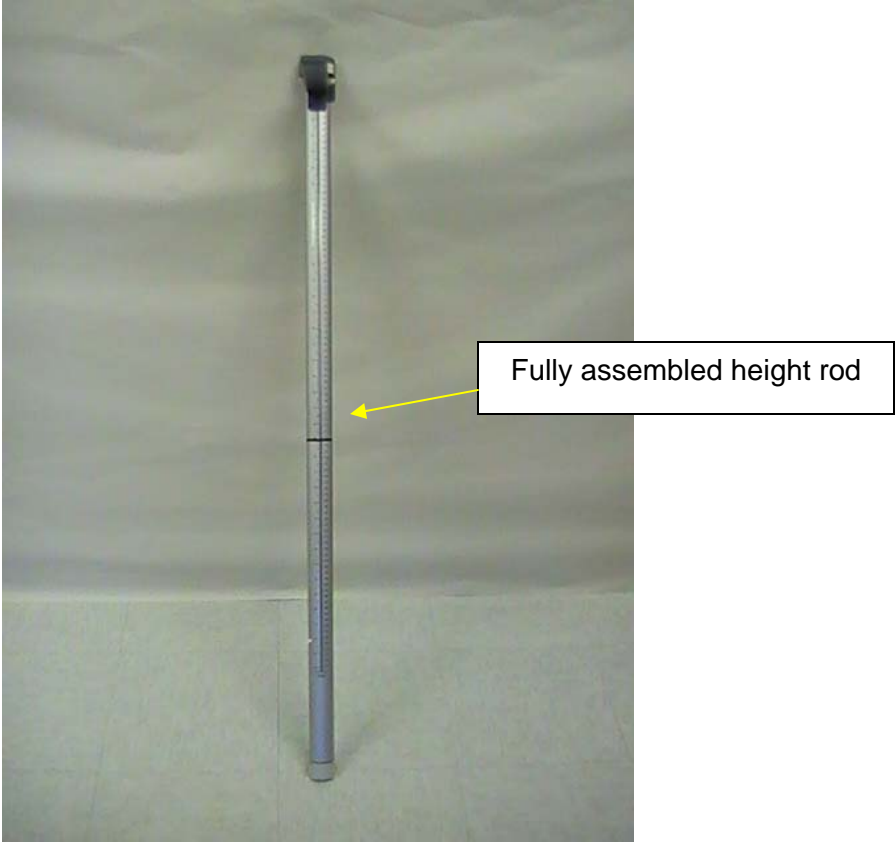

**Figure 7**
1. Connect the AC adapter (not included) into the adaptor jack on the scale platform **C** (see Figure 7).